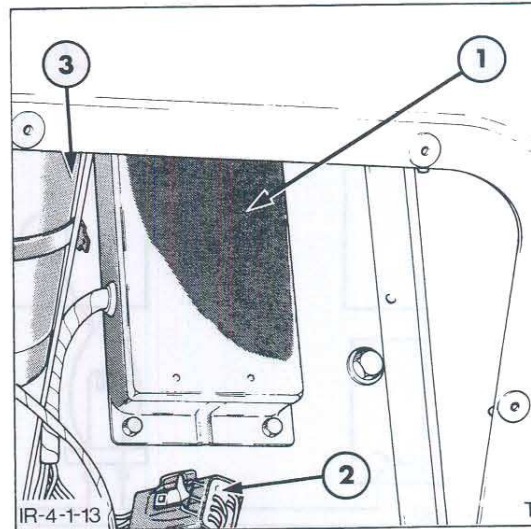

Figure 32
2. Withdraw the retaining bolts and remove the modulator unit, Figure 32.